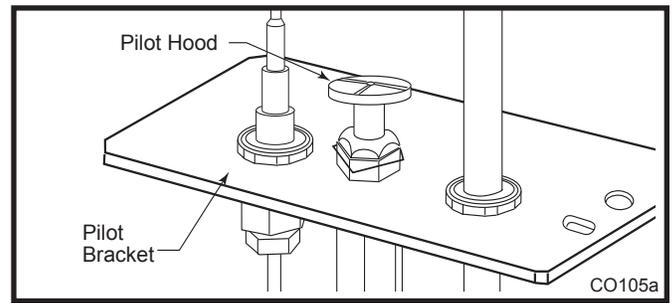

Fig. 32 Remove pilot hood.
- Remove pilot hood by lifting up. (Fig. 32) **NOTE:** It is not necessary to remove the pilot tube for conversion.